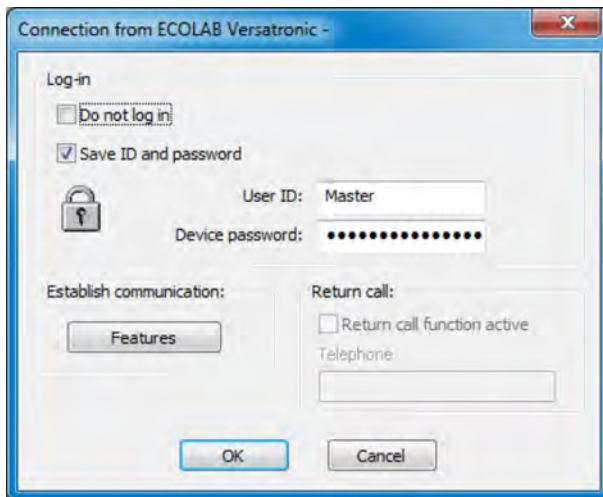

Fig. 115: Login settings
2. make settings for the application and click "Properties" (See Fig. 115 .)